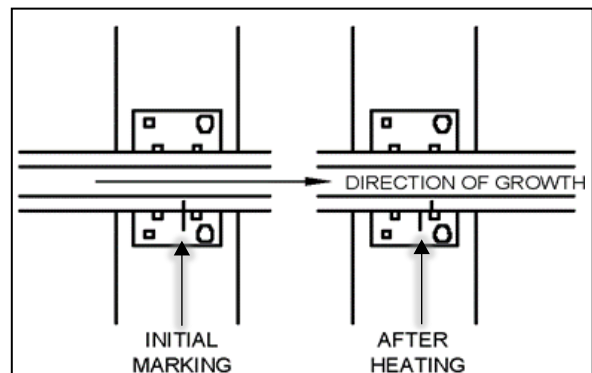

Figure 6 Reference Marks Before and After Heating
- i) A Match Mark is a continuous line drawn on the base of rail to the tie plate or top of bolster if concrete (see Figure 6 below). Note: ties and tie plates used must not move during the adjustment process. Ensure uniformity of expansion throughout the length of rail being adjusted by using the following Match Mark Procedure: